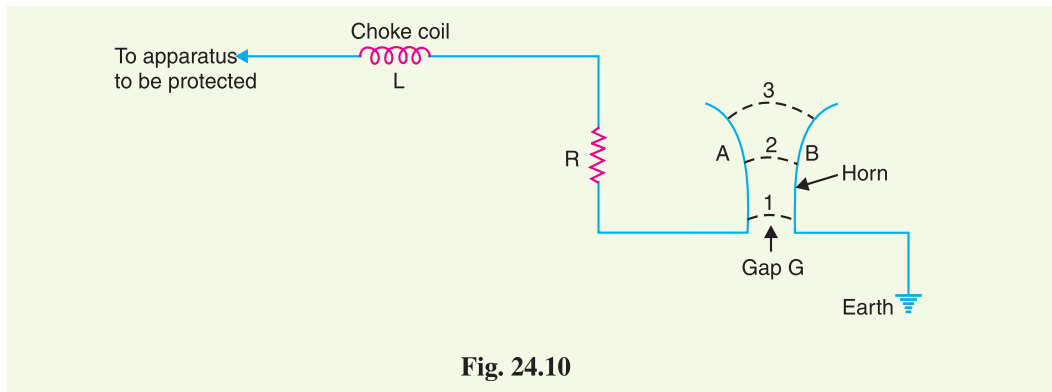

Fig. 24.10
**2. Horn Gap Arrester.** Fig. 24.10 shows the horn gap arrester. It consists of two horn shaped metal rods  $A$  and  $B$  separated by a small air gap. The horns are so constructed that distance between them gradually increases towards the top as shown. The horns are mounted on porcelain insulators. One end of horn is connected to the line through a resistance  $R$  and choke coil  $L$  while the other end is effectively grounded. The resistance  $R$  helps in limiting the follow current to a small value. The choke coil is so designed that it offers small reactance at normal power frequency but a very high reactance at transient frequency. Thus the choke does not allow the transients to enter the apparatus to be protected. The gap between the horns is so adjusted that normal supply voltage is not enough to cause an arc across the gap.